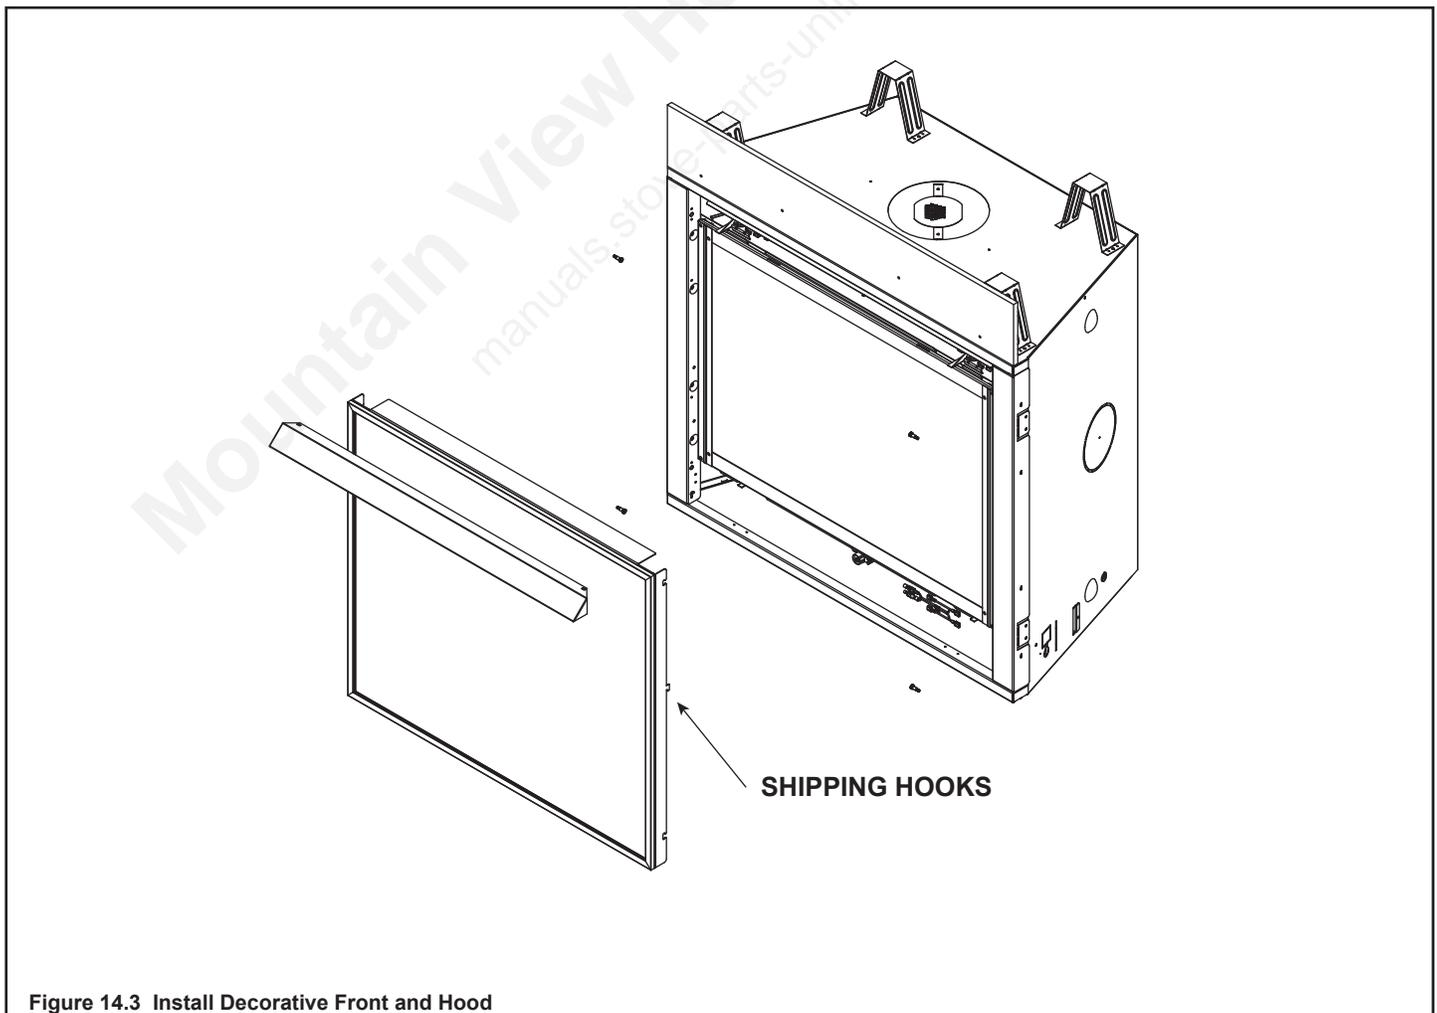

Figure 14.3 Install Decorative Front and Hood
2. Install four shoulder bolts as shown in figure 14.3.
4. Install Hood on appliance by inserting into the two hood clips as shown in Figure 14.3.